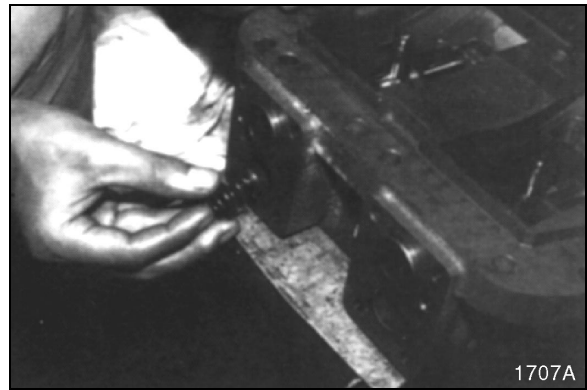

Figure 113
9. Install two springs and spring seat in main control body and install adjusting screw and plug. Tighten screw to 7.5 – 9 kg m (54 – 66 ft lb) and plug to 12 kg m (86 ft lb). See Figure 113.